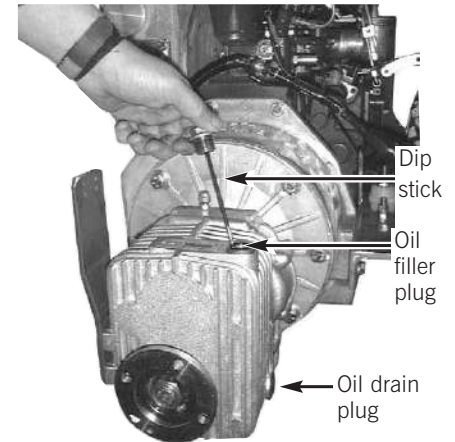

Fig 2e
- (1) The gearbox is fitted with a dipstick and oil filler plug, see fig 2e.
- (2) Each engine is supplied with a gearbox operators manual which specifies the type of lubricating oil to be used, the capacity and frequency of changing of the oil.
- (3) New engines are normally supplied with the gearbox topped up with lubricant but **Check the level before starting the engine for the first time.**
- (4) The oil can be changed via the drain plug at the bottom of the